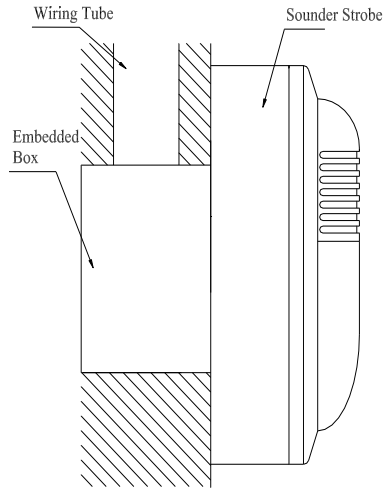

Fig. 2 Mounting
3. The base box and cover of the sounder strobe are plugged together, surfaced mounted on 85H50 embedded box as shown in Fig. 2.